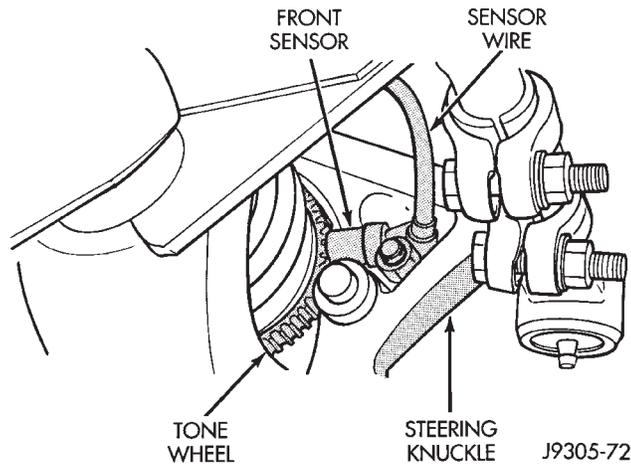

Fig. 7 Sensor Location
- (1) Turn ignition switch to OFF position.
- (2) Raise vehicle.
- (3) Remove wheel and tire assembly.
- (4) Remove bolt attaching front sensor to steering knuckle (Fig. 7).